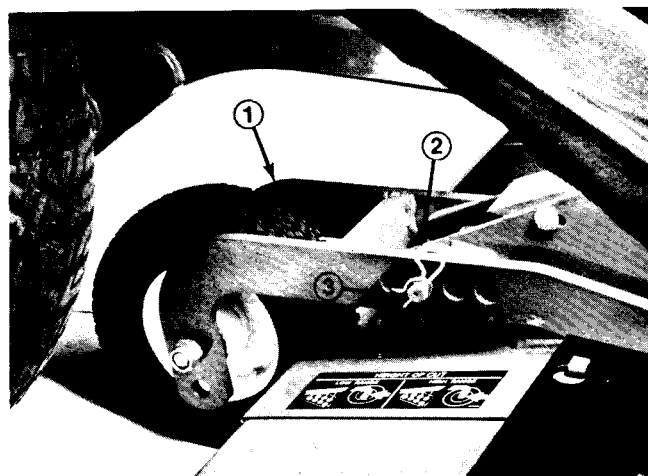
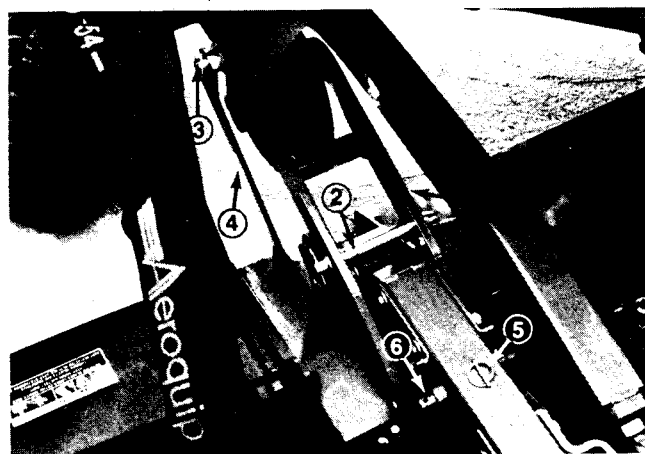

Figure 15
Figure 16
3. Remove hairpin cotter and clevis pins from the two (2) rear castor assemblies (Fig. 15). Set the left hand clevis pin aside and insert the right hand clevis pin into the most forward holes in the castor wheel arm on the right side of the unit (Fig. 16). The castor arm and pin should be resting on top of the unit.
5. Fit cutting unit tilt link over weldment on the right side of traction unit and secure with klik pin. Position link so it clears when cutting unit is raised. Keep remaining klik pin handy to secure opposite end of link to cutting unit arm weldment (Fig 16).